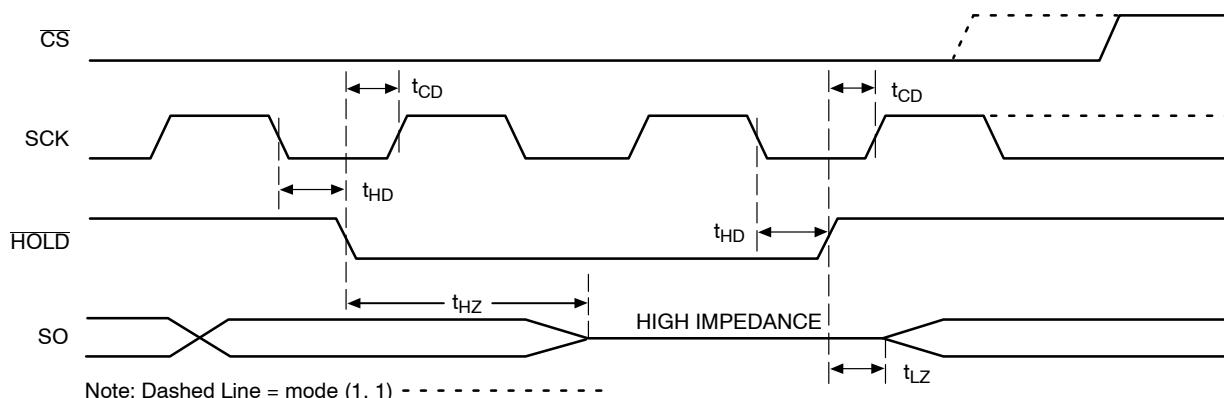

Figure 11. HOLD Timing
The HOLD input can be used to pause communication between host and CAT25M01. To pause, HOLD must be taken low while SCK is low (Figure 11). During the hold condition the device must remain selected (CS low). During the pause, the data output pin (SO) is tri-stated (high impedance) and SI transitions are ignored. To resume communication, HOLD must be taken high while SCK is low.